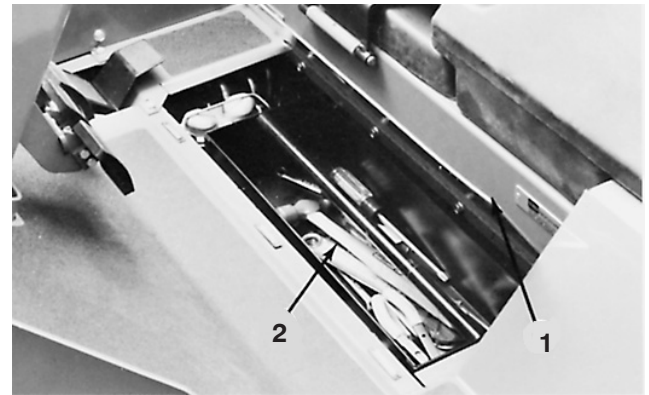

Figure 58
1. Raise floor panel in front of seat (Fig. 58). Remove tool tray.
2. Remove deck tilt link from tool box under traction unit floor (Fig. 58) and klik pins from weldments on traction unit frame and cutting unit lift arm.